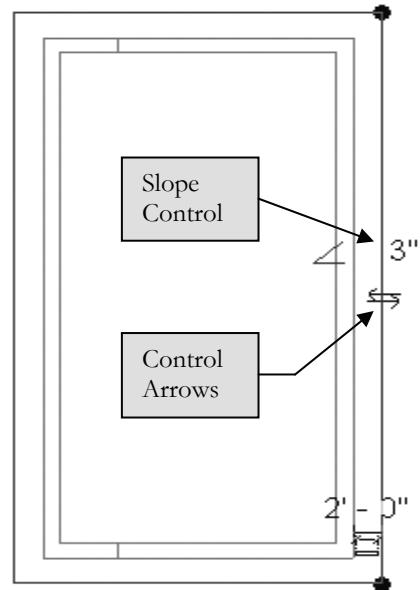

FIGURE 7-1.8 Selected walls
32. Select the remaining three walls (Figure 7-1.8).
FYI: You can also change the slope of the roof by changing the *Slope Control* text (see Figure 7-1.8); just select the text and type a new number.